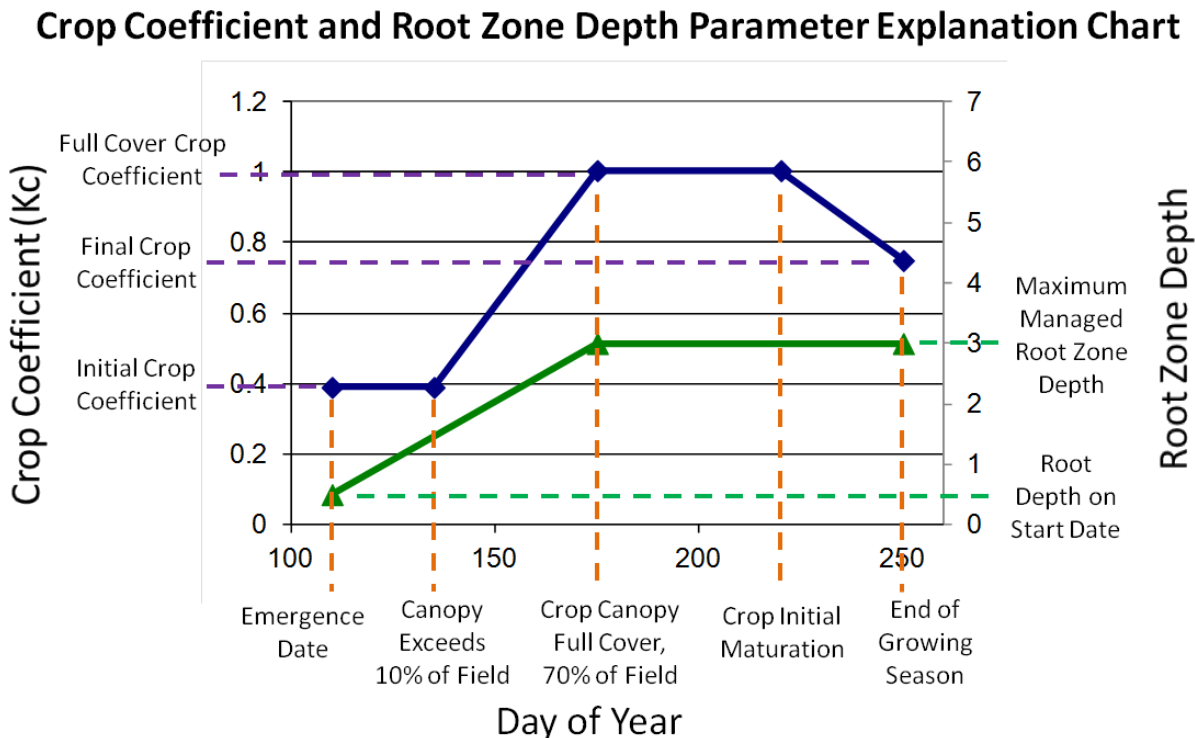

Figure 24. How crop coefficients and root growth are defined by the parameters in Field Settings.
The % yield reduction on any particular day is therefore  $(1-K_s) \times 100\%$ . This is what is charted (Figure 24).
**Planting/Emergence Date:** Date the plant that the crop emerges and/or the plant starts using water. This is the start date for the soil water budget model. (See Figure 24.)
**Crop Canopy Cover Exceeds 10% of Field:** The date that crop water use starts increasing. (See Figure 24.)
**Crop Canopy Exceeds 70% of Field (Full Cover) Date:** The date that the crop canopy exceeds 70% - 80% of the field area or shades 70% - 80% of the ground area. At this point the crop coefficient reaches a maximum and stays at this maximum until the Initial Maturation Date (below). (See Figure 24.)
**Crop Initial Maturation Date:** After this date the crop begins to dry up, senesce or otherwise shut down and water use begins to decrease. (See Figure 24.)
**End of Growing Season Date:** Water use stops on this date. Often this coincides with harvest, or the first killing frost. This is the last date of the model. (See Figure 24.)
**Root Depth on Start Date:** The effects of a growing root depth is included in the soil water budget model. This is the root depth in inches on the starting or plant emergence date. (See Figure 24.)
**Maximum Managed Root Zone Depth:** This is the maximum root depth reached in the season. It is assumed that the plant root reaches this depth on the Crop Canopy Full Cover Date. (See Figure 24.)
**Initial Crop Coefficient:** The crop coefficient (Kc) from emergence to the 10% Cover date. (See Figure 24.) This Kc is based on alfalfa reference ETr.
**Full Cover Crop Coefficient:** The crop coefficient (Kc) at full cover. This is the peak, or maximum crop coefficient. (See Figure 24.) This Kc is based on alfalfa reference ETr.
**Final Crop Coefficient:** Crop coefficient (Kc) at the end of the season. (See Figure 24.) This Kc is based on alfalfa reference ETr.